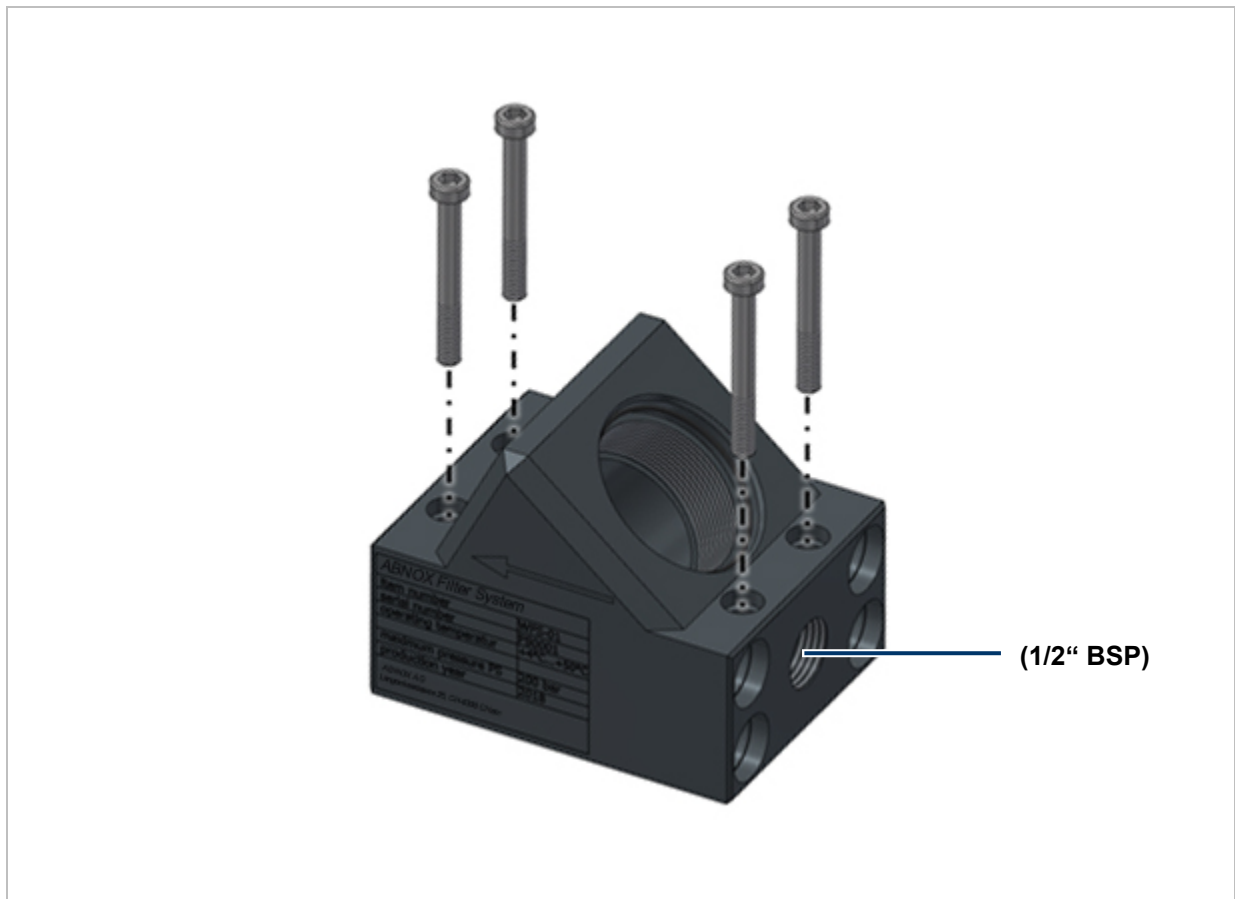

Figure 4 – Mounting the AFS on a flat base board
1. Insert the screws (M6) into the provided through-bores and screw to the base board (see figure 4).